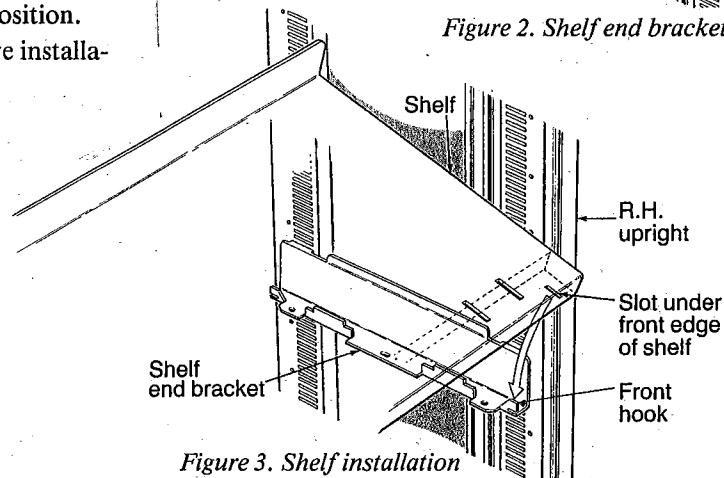

Figure 3. Shelf installation
3. Next install the shelf (see Figure 3). Tilt the rear of the shelf up approximately 30° and engage the slot under its front edge with the front hook on each end bracket. Then push the shelf toward the rear of the cabinet and lower it to a horizontal position.